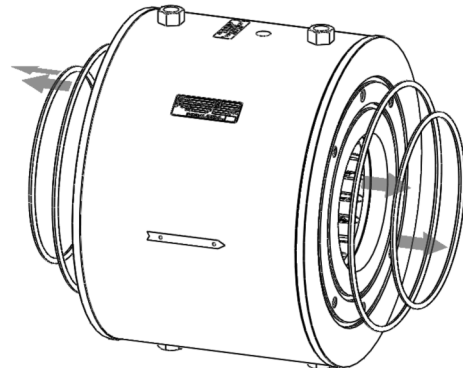

Figure 10 - Remove all 4 cover plate O-rings.
6. Remove the cover plate O-rings as shown in Figure 10 below.